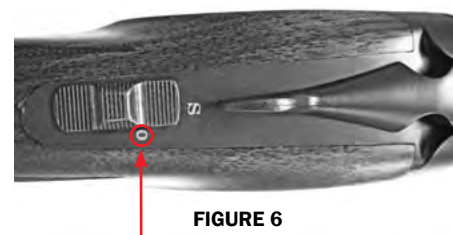

FIGURE 6
3. To select the top barrel to fire first, the SAFETY should be moved to the left (see FIGURE 6) revealing a “O” (over).